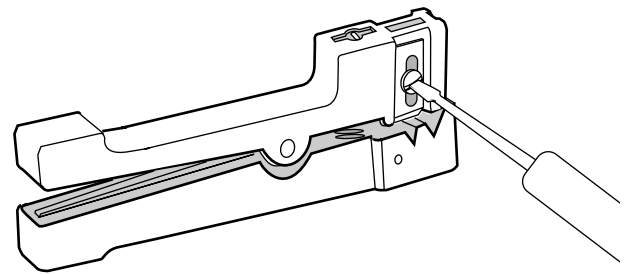

Figure 9
5.2 Before using the stripper, make sure that it is properly adjusted. Use a small screwdriver to adjust *one* of the blades on the side of the buffer tube cutter so that it seats against the lower jaw but does not force the jaw open (Figure 9).